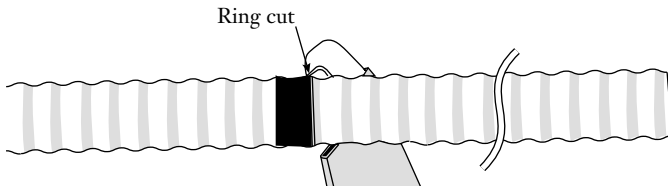

Figure 3
4.2 Using the hook blade knife, make a ring cut through the outer sheath at the tape mark (Figure 3).